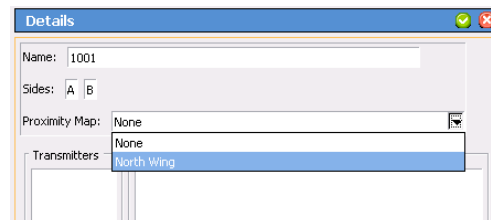

Figure 20: Locations-Details Pane
3. In the **Locations–Details** pane (Figure 20), type a location name (such as a room number or room name such as Staff Lounge or Men’s Room). If applicable, choose a room side.